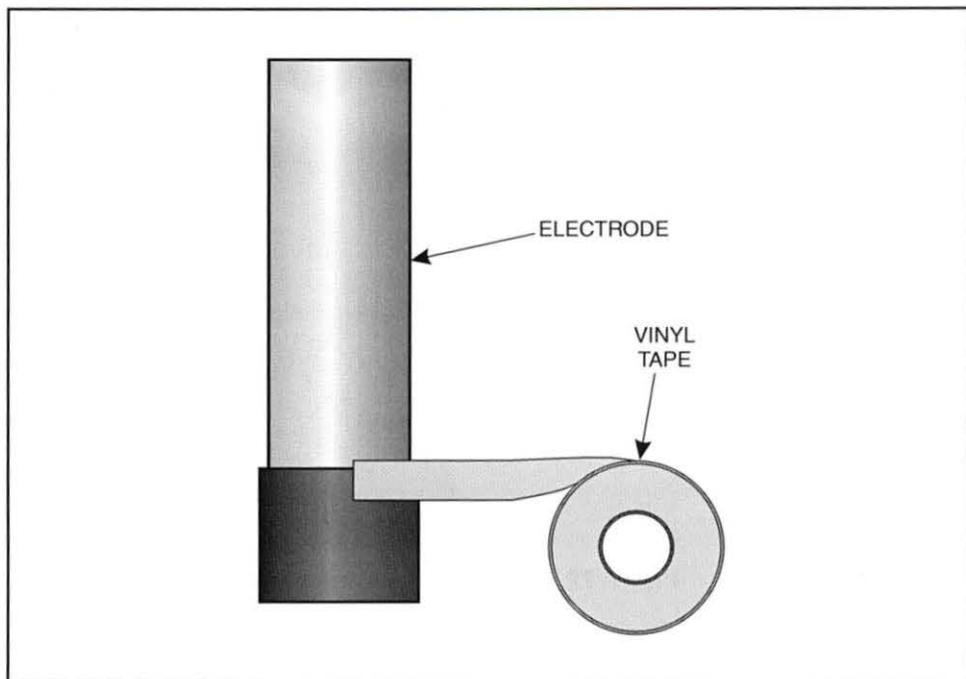

Figure 71. Vinyl Tape Applied to Connection
- F. Locate the vinyl tape and tape the connection between the cap and the electrode fitting, as shown in figure 71.